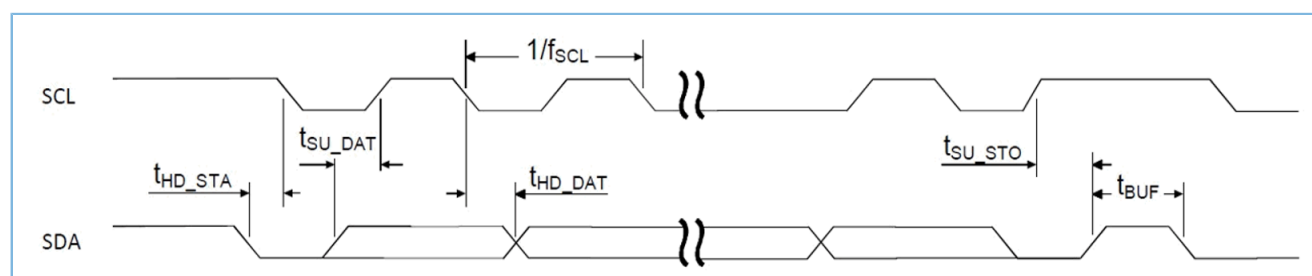

Figure 10-11 I2C timing diagram
- **Description:** This register controls the amount of time delay (in terms of number of clock periods) introduced in the rising edge of SCL - relative to SDA changing - when I2C services a read request in a slave-transmitter operation. The relevant I2C requirement is t_{SU_STO} as detailed in the Figure 10-11. This register must be programmed with a value equal to or greater than 2.